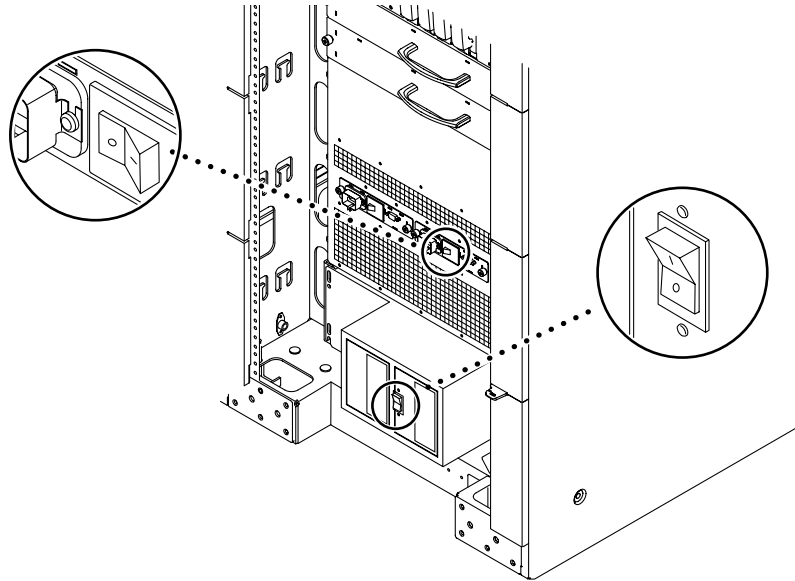

FIGURE 2-13 Sun Fire 6800 System Power Switch Locations
- b. **Turn the AC power switches off on the RTUs at the front and rear of the system (FIGURE 2-13).**
4. **Power on the RTS power switches (FIGURE 2-13).**
5. Power on the AC input box power switches (FIGURE 2-13).